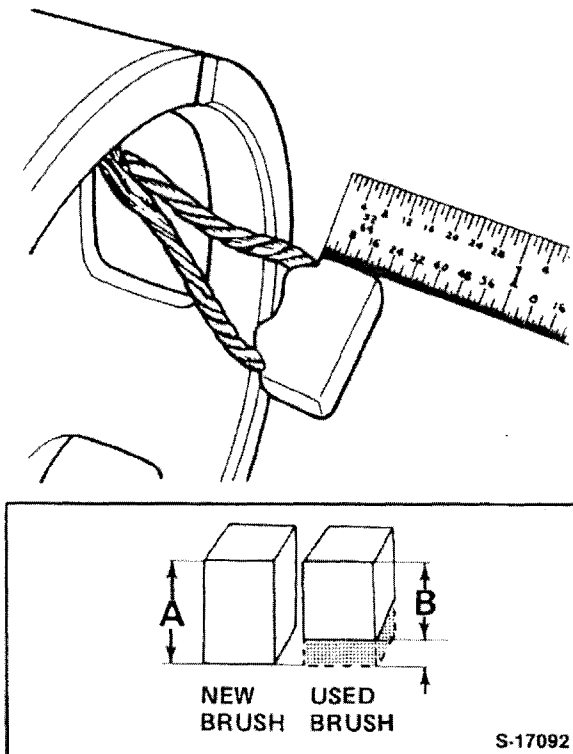

Figure 42
10. Measure the brush length, Figure 42. Replace the brushes if they measure less than the following dimensions: